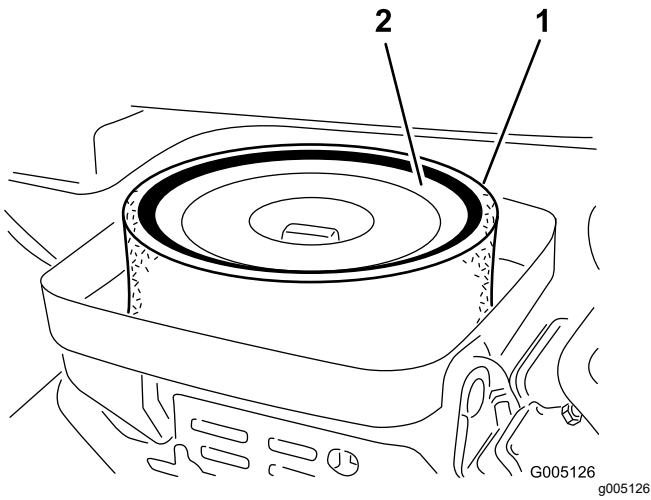

**Figure 27**
1. Clean the air-cleaner cover (Figure 27).